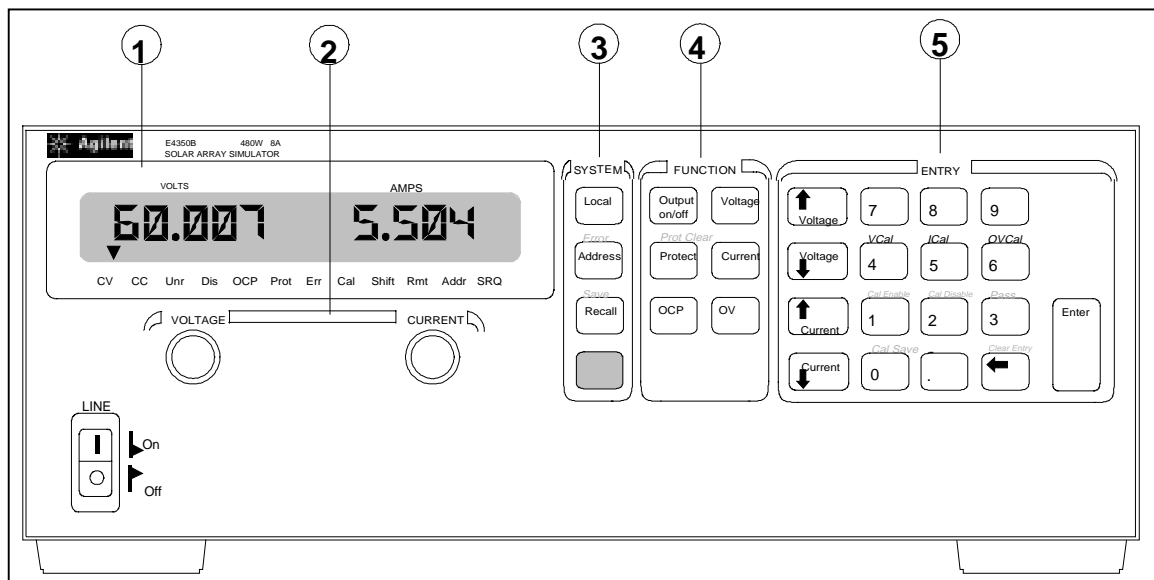

Figure 5-1. Front Panel Controls and Indicators
The front panel is summarized in Figure 5-1 and Table 5-1. Some keys have two functions. For example, the System **Recall** key can be used either to recall a stored operating state or to **Save** (store) an operating state. The first operation is shown **on** the key and the second (shifted) operation is shown in blue **above** the key. In order to do a shifted operation, first press the solid blue key, which is unlabeled but shown throughout this manual as **Shift**.
**Table 5-1. Front Panel Controls and Indicators (See Figure 5-1)**